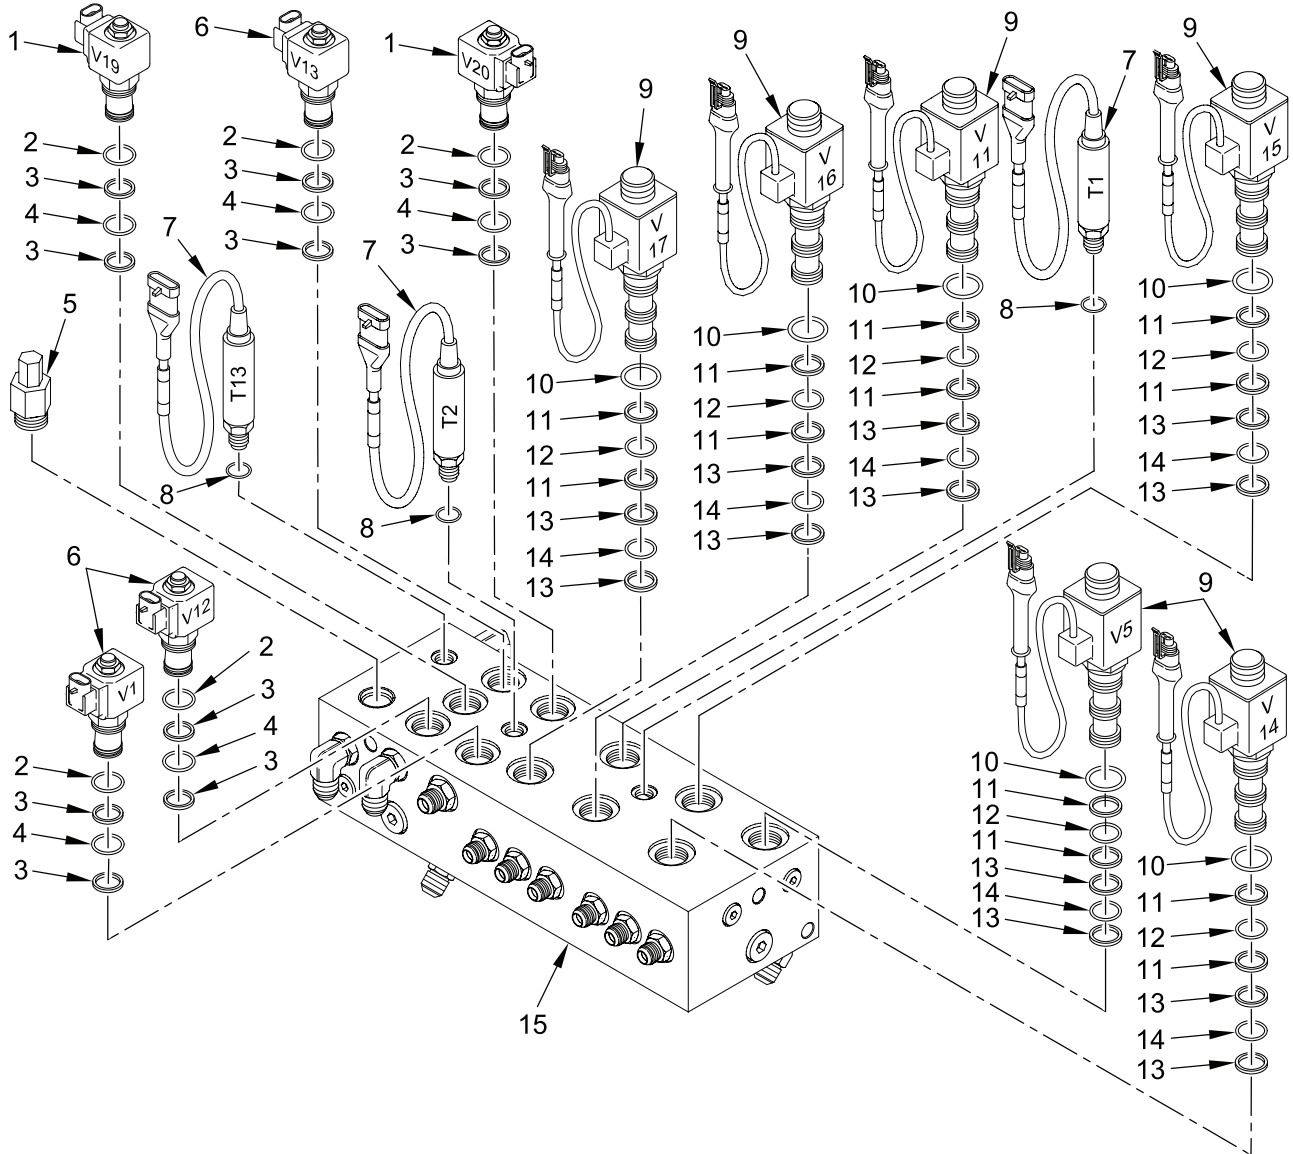

Figure 3. Installing Valves and Transducers On Primary Manifold
1. Install three new o-rings (Figure 3, item 2), three new teflon backups (Figure 3, item 3), three new o-rings (Figure 3, item 4), three new teflon backups (Figure 3, item 3), and three NO valves (Figure 3, item 6), on primary manifold (Figure 3, item 15).
2. Install two new o-rings (Figure 3, item 2), two new teflon backups (Figure 3, item 3), two new o-rings (Figure 3, item 4), two new teflon (Figure 3, item 3), and two NC valves (Figure 3, item 1).
3. Install six new o-rings (Figure 3, item 10), six new teflon backups (Figure 3, item 11), six new o-rings (Figure 3, item 12), six new teflon backups (Figure 3, item 11), six new teflon backups (Figure 3, item 13), six new o-rings (Figure 3, item 14), six new teflon backups (Figure 3, item 13) and six three-way valves (Figure 3, item 9), on primary manifold (Figure 3, item 15).
- Install relief valve (Figure 3, item 5), three o-rings (Figure 3, item 8), and three transducers (Figure 3, item 7) on primary manifold (Figure 3, item 15).